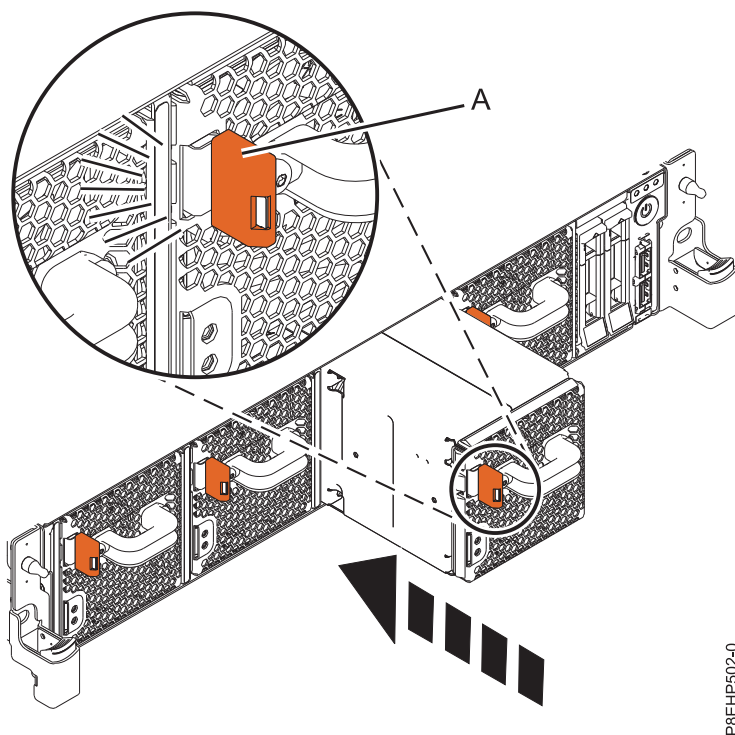

Figure 12. Replacing a fan in the system
2. Using your hand to support the bottom of the fan, align the fan (A) with the fan slot and slide it into the system until the terracotta tab (A) locks in place, as shown in Figure 12 on page 19.